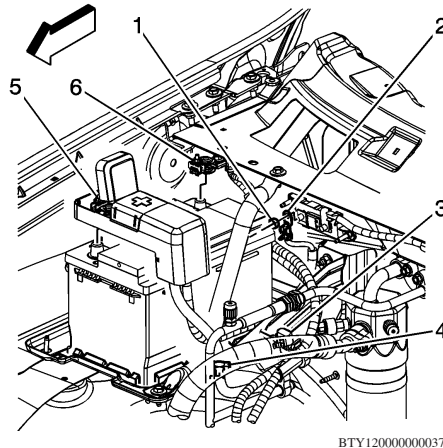

Fig. 1 Battery cable removal
4. Disconnect battery ground cable (6), **Fig. 1**.
5. Open starter solenoid cable cover at positive battery terminal, **Fig. 1**.
6. Loosen starter solenoid cable nut (5), **Fig. 1**.
5. Install starter solenoid cable nut (5), **Fig. 1**. **Torque** nut to 44 inch lbs.
7. Install battery ground cable (6) to battery terminal, **Fig. 1**. **Torque** nut to 44 inch lbs.